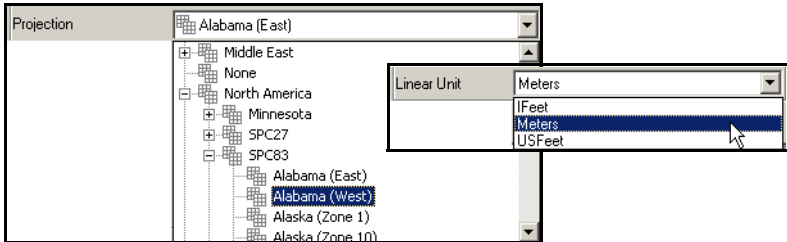

Figure 3-89. Projection and Linear Unit Lists
- If Ground or Grid coordinate type is selected, set the Projection and Linear unit (Figure 3-89).